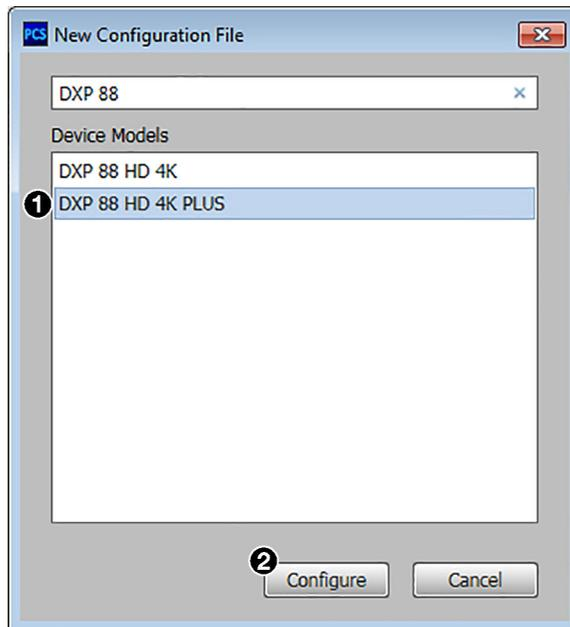

Figure 40. New Configuration File Dialog Box (DXP 88 HD 4K PLUS Selected)
2. Select the desired device model from the **Device Models** list (see figure 40, ①).
3. Click the **Configure** button (②). A new offline device configuration tab opens.